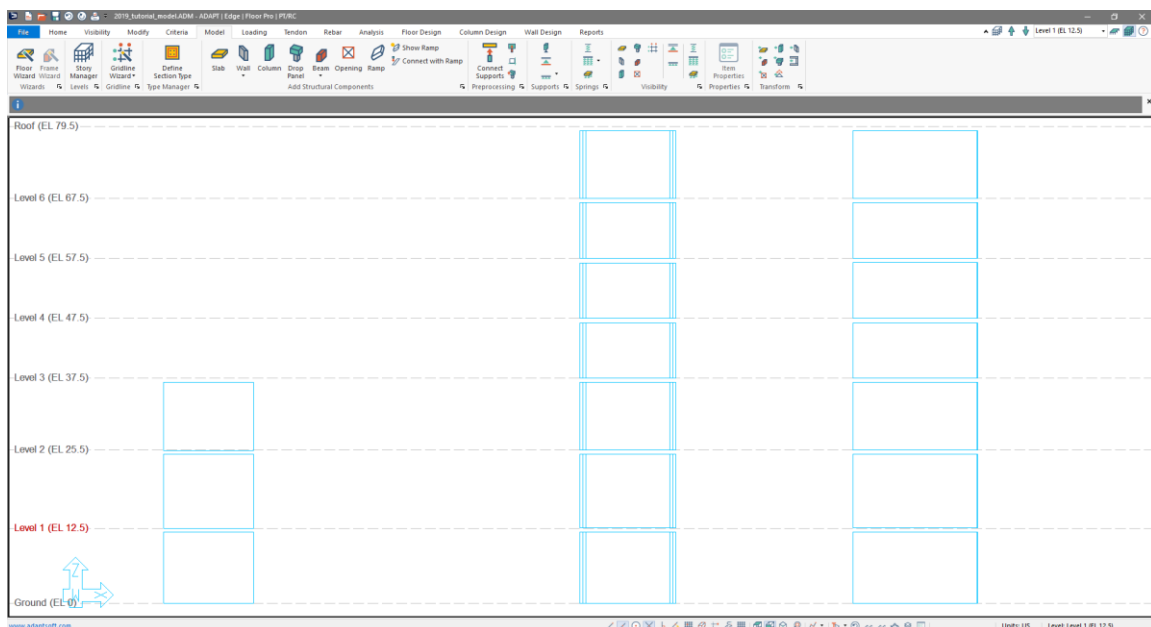

Figure 8-7
- The user should now see only the slabs in the main graphical user interface as shown in **FIGURE 8-7**.